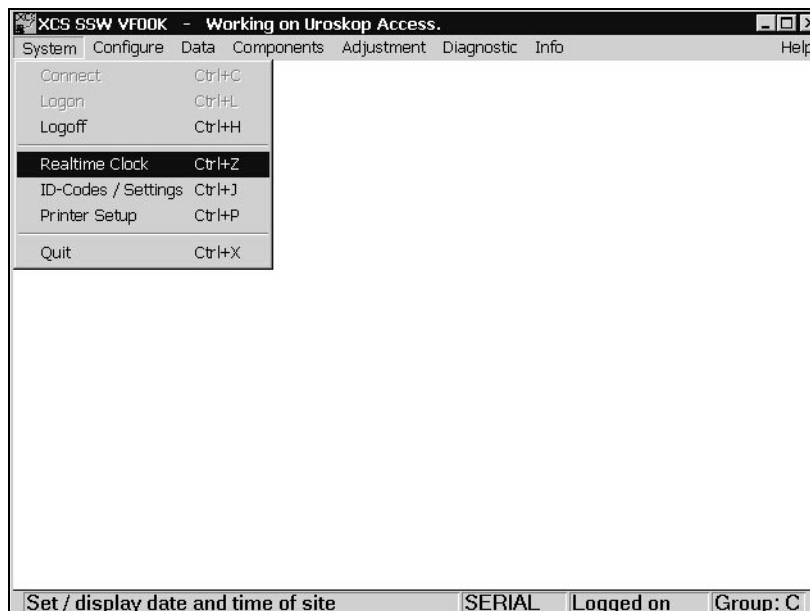

Fig. 10
- Select "System/Real time clock" (Fig. 10).